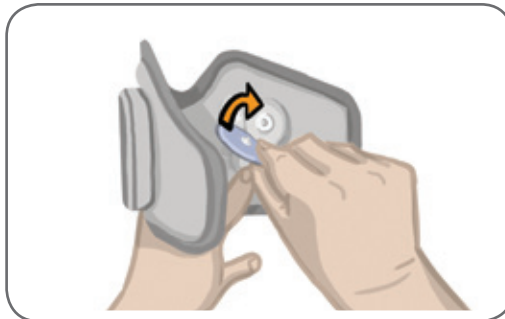

Figure 6-6: Attaching the Cloth Electrodes
5. Attach the Cloth Electrodes to the electrode bases. See Figure 6-6. For regular lower leg FS Cuff users make sure the Cuff Snap Covers are in place.